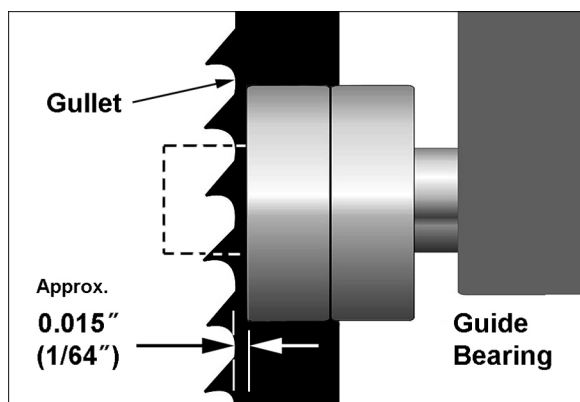

Figure 5-11: guide bearing position
5. Slide entire guide bracket until front of guide bearings are about 0.015" (1/64") behind blade gullet (curved area at base of tooth). See Figure 5-11.